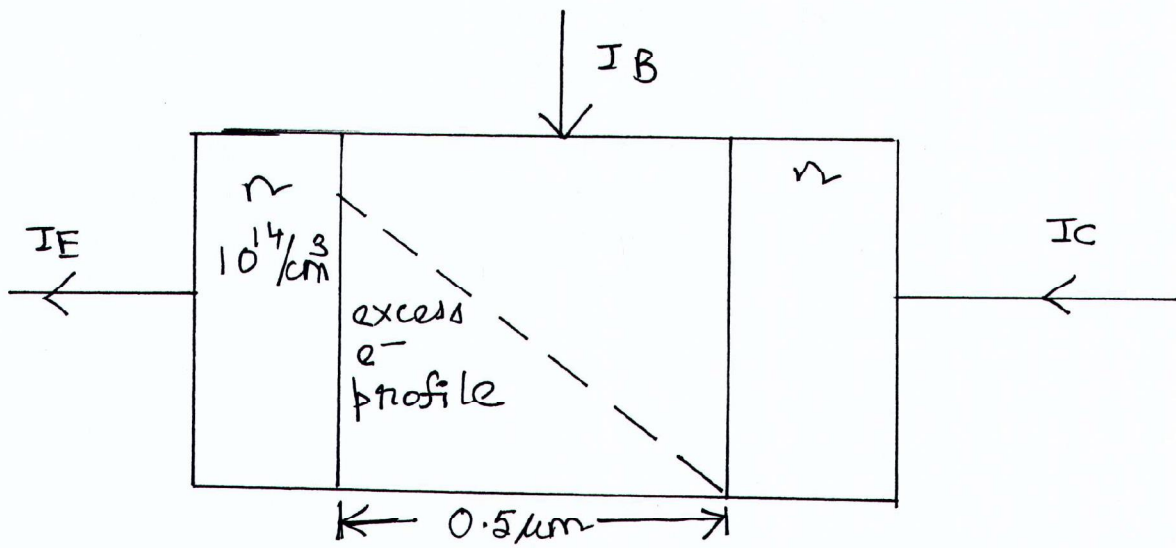

Figure 1.
- The injected excess e^- concentration profile in the base region of the n-p-n BJT, biased in the active region, is linear, as shown in the figure 1. If the area of the B-E junction is 0.001 cm^2 , $\mu_n = 800 \text{ cm}^2 \text{V}^{-1} \text{sec}^{-1}$ in the base region and depletion region widths are negligible, then find the value of collector current (I_C). [$V_T = 26 \text{ mV}$] **[2 M]**